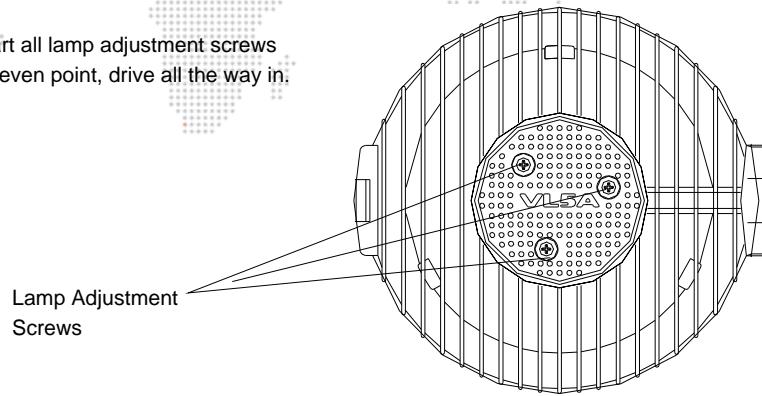

Figure 2-5: VL5Arc Lamp Adjustment Screws Location
Step 10. Using lamp adjustment screws, adjust lamp. **Figure 2-5.**